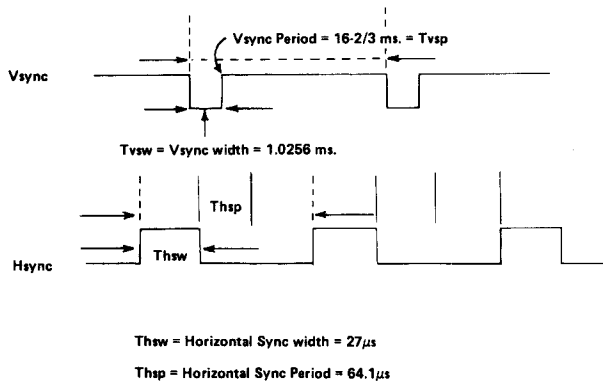

Figure 1. Sync Signals
7. Look at pins 6 and 9 on the CRT Monitor P.C. Board and compare the signals to Figure 1. If the respective signals are the same, go to 9. If not: